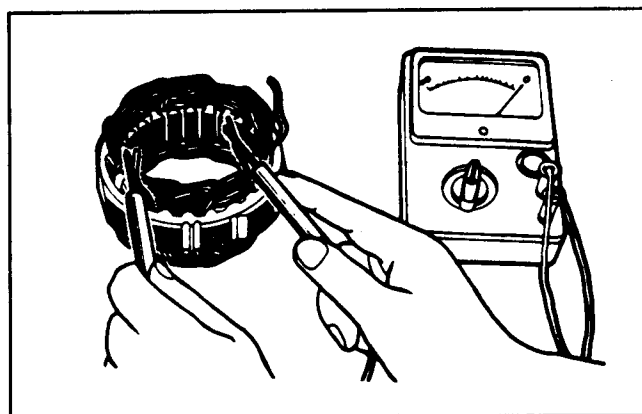

Figure 40
12. Check for continuity between lead wires of the stator coil (Fig. 40). Replace the stator coil if there is no continuity.